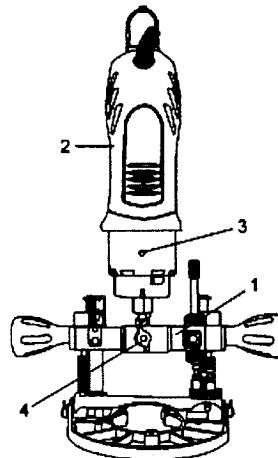

Fig. 15
2. Slide router accessory mounting bracket (1) onto the bottom of motor housing (2) until the mounting hole (3) lines up with the hole in the mounting bracket (see Fig. 15).